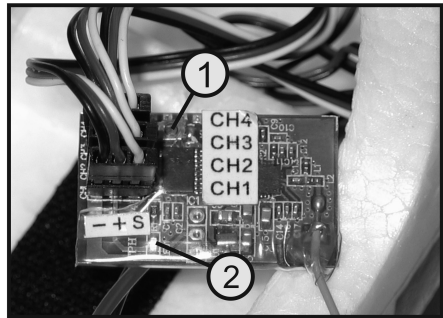

Figure 16
→ Right after activation, the receiver tries to receive a valid transmitter signal. If the transmitter is switched off or not bound to the receiver, the LED in the receiver (see figure 16, pos. 2) will go out very quickly. When the receiver is bound correctly, the LED is lit permanently when a valid transmitter signal is received.